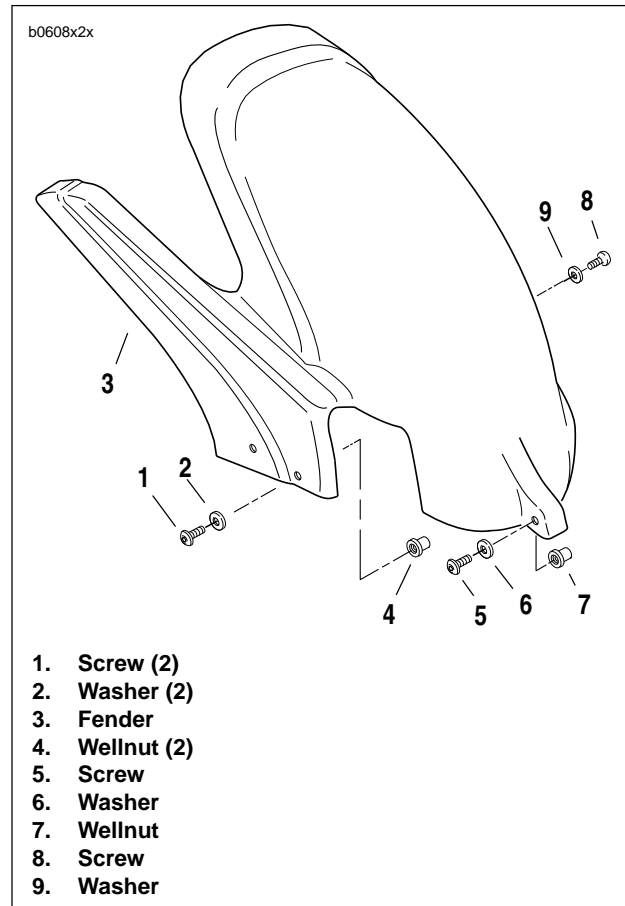

Figure 2-103. Rear Fender
2. See Figure 2-103. Remove two screws (1) and washers (2) from right side wellnuts (4).
3. Remove screw (5) and washer (6) from front wellnut (7).
4. Remove screw (8) washer (9) from brake line clamp on the left side.
2. See Figure 2-103. Secure clamp with screw (8) and washer (9).
- a. Install screw (5) and washer (6) into wellnut (7).
- b. Install screws (1) and washers (2) into wellnuts (4).